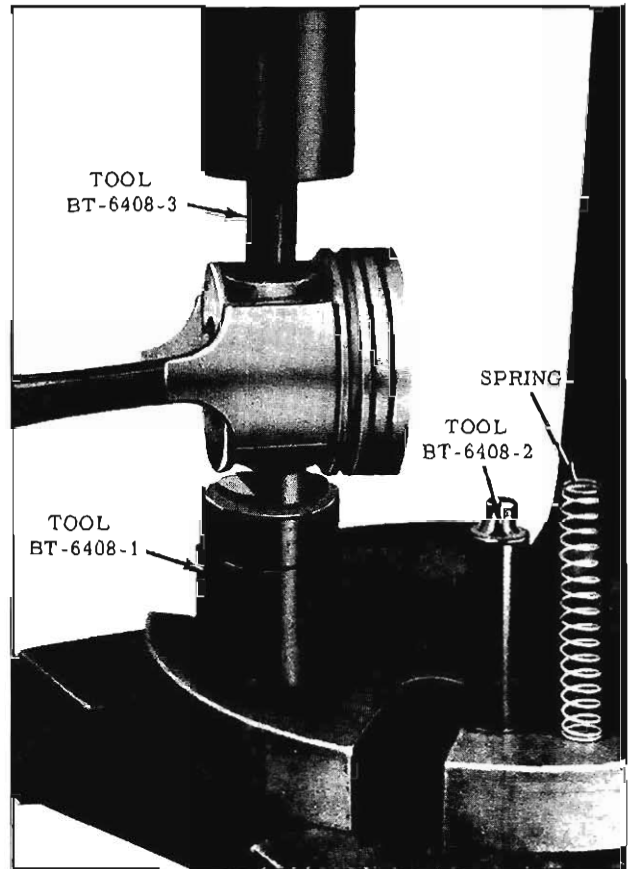

Fig. 3-434 Removing Piston Pin
2. Place Remover Tool BT-6408-3 in piston pin as shown in Fig. 3-434, and press pin out.